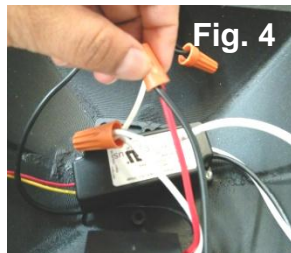

Fig. 4
6. Remove the **wire nuts** connecting the **driver** to the **fixture** (Fig. 4).